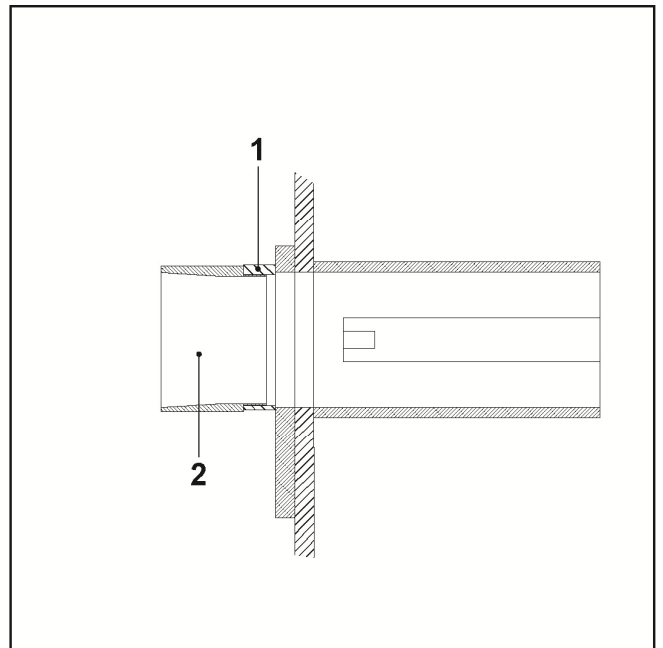

FIG.53
- Slide the guide spacer (FIG. 53-REF. 1) onto the cylindrical part of the guide ring (FIG. 53-REF. 2) with the countersunk part facing outward.